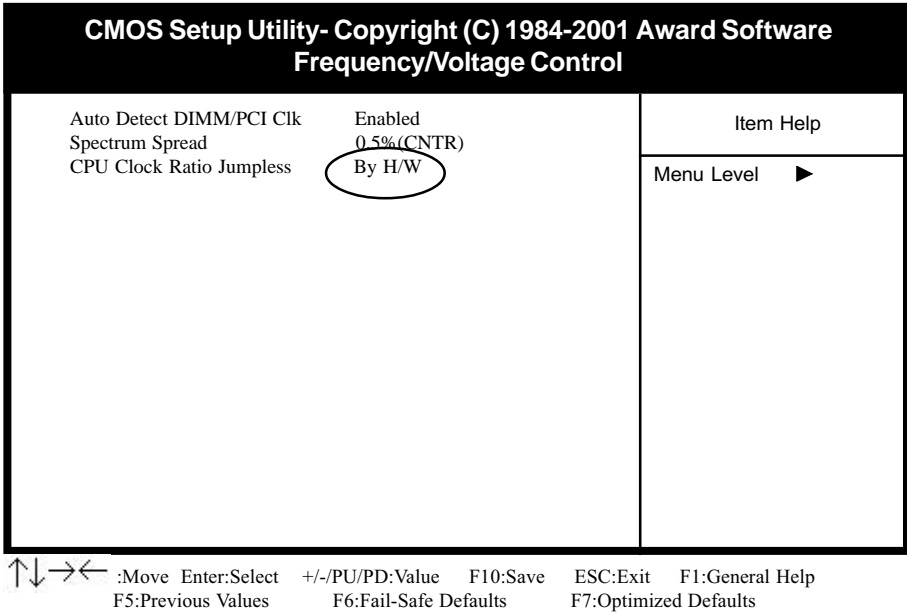

Figure 2-2 SeePU Setup Screen
3. Use the CPU Clock Ratio jumpless option to select your CPU's clock ratio(also known as external clock multiplier factor) according to your processor's specifications. Select **By H/W** to let the hardware auto determine your CPU clock ration (See Figure 2-2).